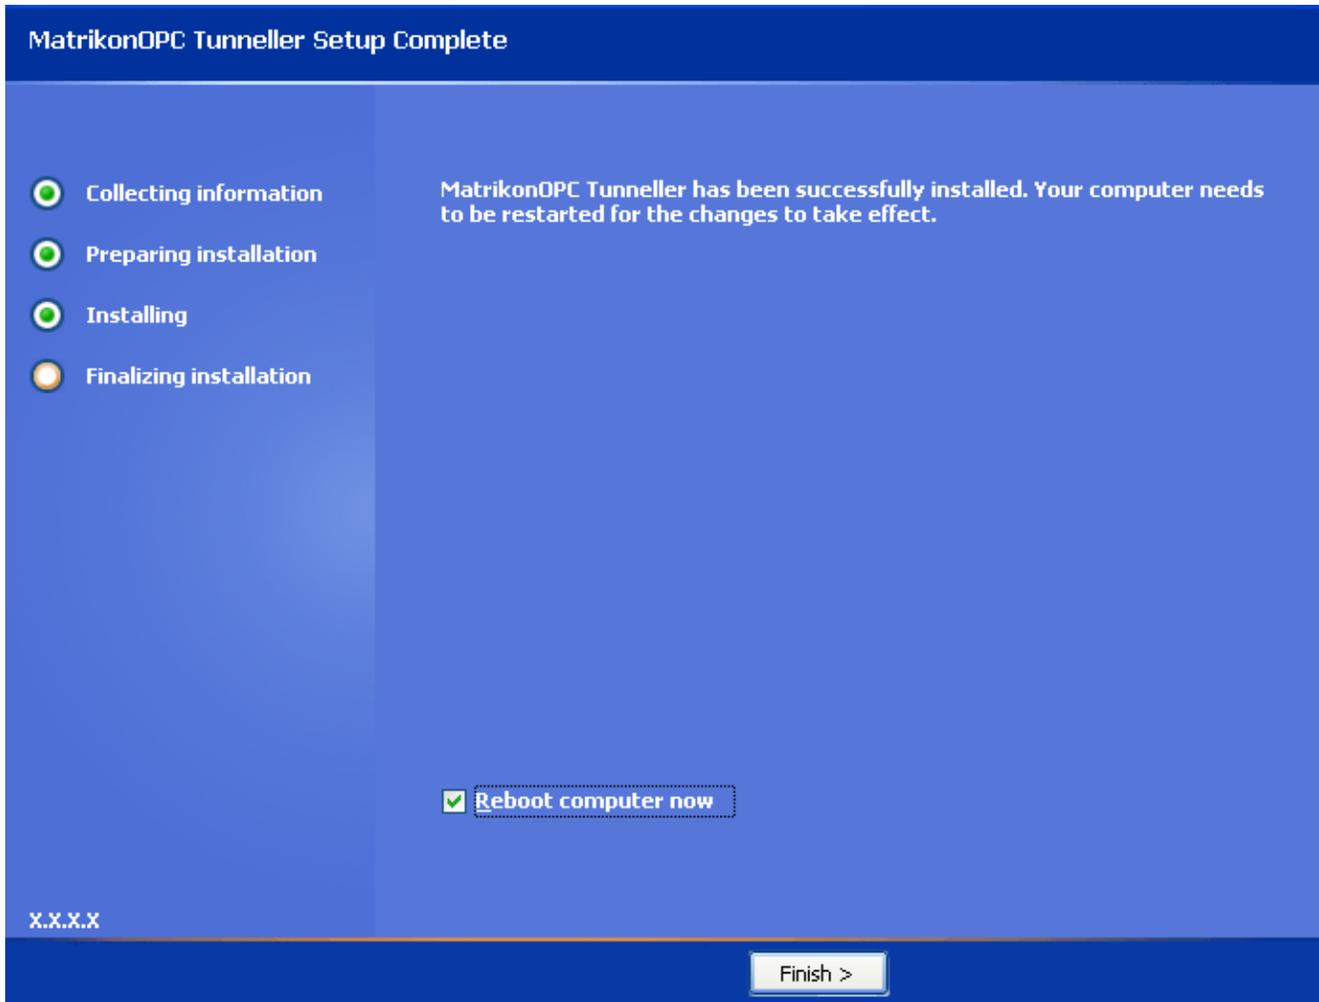

Figure 32 - MatrikonOPC Tunneller Setup Complete Screen
22. When the installation has finished, the **MatrikonOPC Tunneller Setup Complete** screen (Figure 32) appears stating that MatrikonOPC Tunneller has been successfully installed.